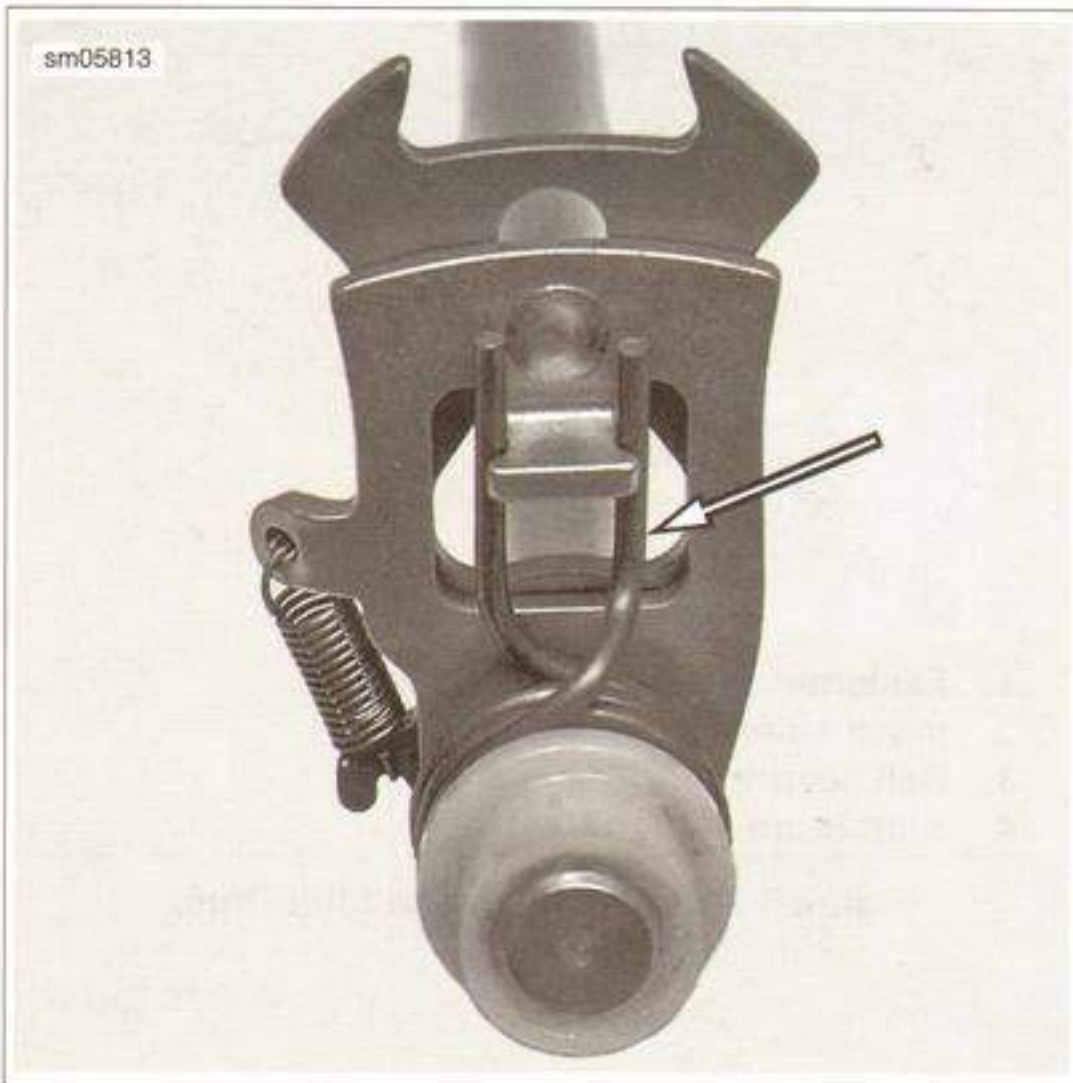

Figure 6-65. Shift Shaft Spring
1. See Figure 6-65. Install large spring and step sleeve as shown.